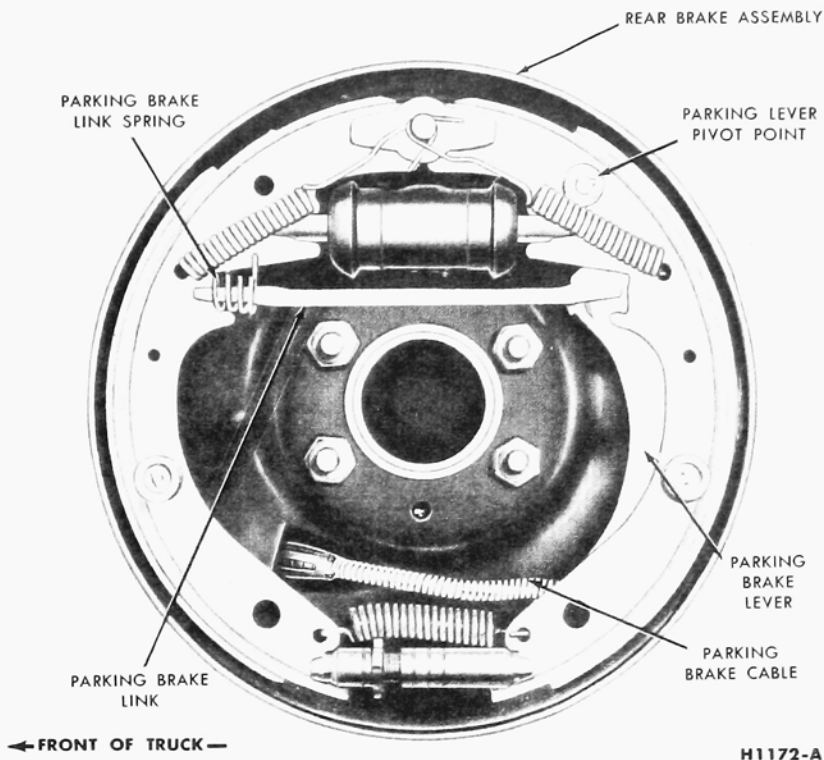

FIG. 13—Parking Brake Assembly
3. Working on the wheel side (Fig.13), compress the prongs on the cable retainer so that they can pass through the hole in the carrier plate. Draw the cable retainer out of the hole.
1. Pull enough of the cable through the housing so that the end of the cable may be inserted over the slot in the parking brake lever. Pull the excess slack from the cable and insert the cable housing into the carrier plate access hole so that the retainer prongs expand (Fig. 13).